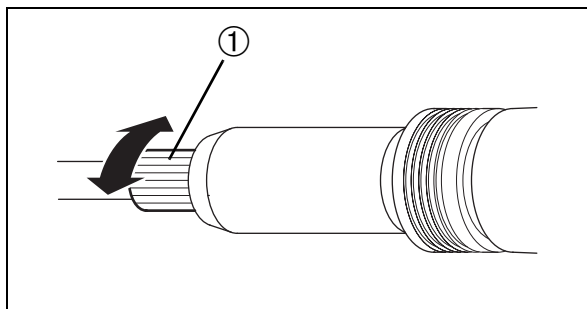
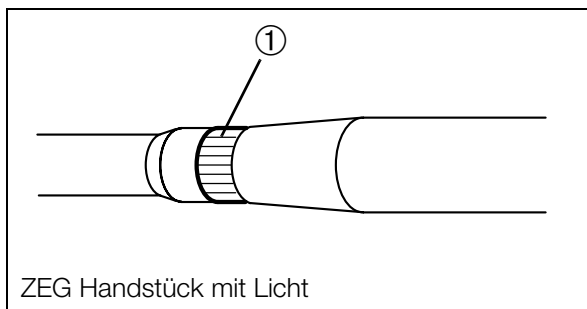

Fig. 61
Fig. 62
The water flow can additionally be regulated using the rotating ring ① (Fig. 61 and Fig. 62) at the end of the handpiece.